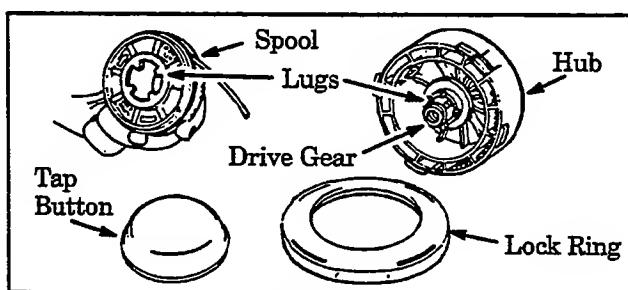
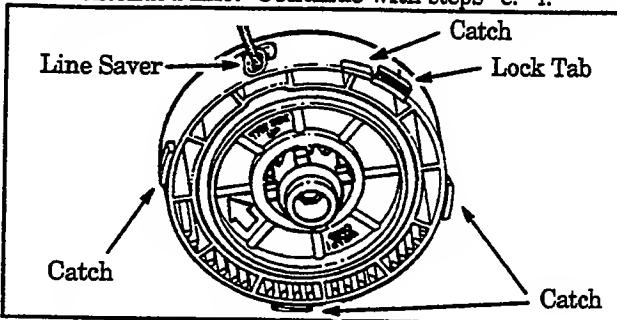

Figure 16
Figure 17
- Remove the lock ring, tap button, and spool. Figure 16 .
**NOTE:** The aluminum line saver (Figure 17) can become worn during use. After a groove is worn into line saver, remove it from trimmer head, turn it upside down, and reinstall it (with spool removed) to provide a new wear surface.
- e. Insert the end of the line through the line saver. Figure 17. Place spool in trimmer head. Press spool down, then turn it enough to lock lugs on spool under lugs on drive gear. Figure 16.
- f. Replace the tap button. Align the lock ring over the catches on the hub; push the lock ring down on the hub and turn it clockwise until the catches lock into place. Figure 17.